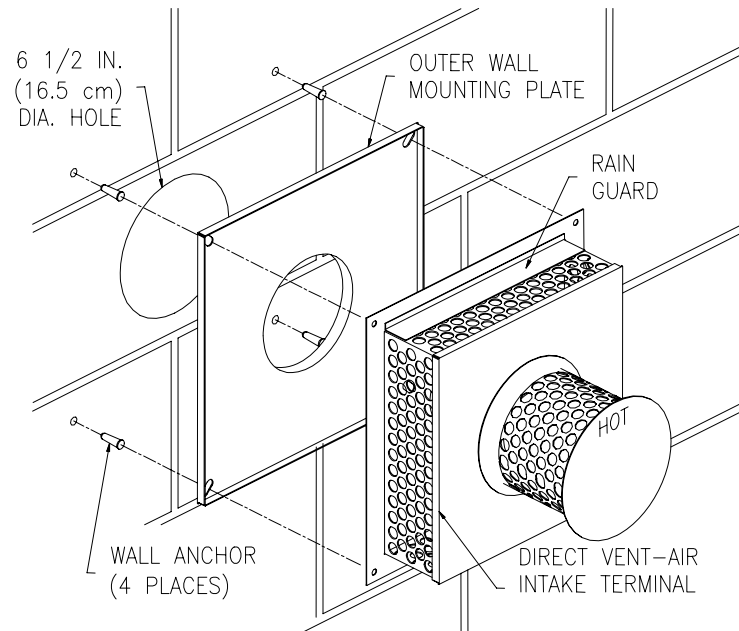

Figure 8.
3. Cut a 6-1/2 inch (16.5 cm) diameter minimum clearance hole in the wall at the point where the vent-air intake tubes will pass through the outside wall and connect with the direct vent-air intake terminal (See Figure 8).
4. From outside the building, position the outer wall mount plate and direct vent-air intake terminal over the center of the opening. Mark the mounting screw hole locations. With a 3/16 inch (4.7 mm) diameter drill bit (not supplied), drill holes for the wall anchors (supplied). Install the wall anchors but **DO NOT** affix the outer wall mount plate and direct vent-air intake terminal to the wall at this time (See Figure 8). Note: Certain construction of walls may require the use of a different type of wall anchoring means than supplied. **DO NOT** modify the direct vent-air intake terminal or outer wall mount plate.